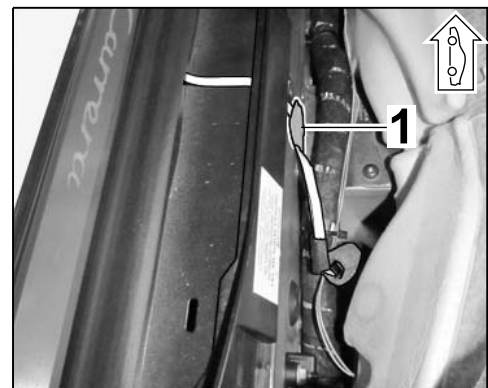

Figure 19
- 3.4.3 Clean the adhesive pad bonding area on the body ⇒ *Figure 19 -1-* using commercially available cleaning agents to remove any dust and grease.